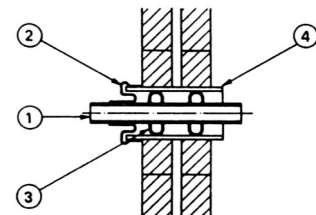

Fig. 14
3.6.4.1 Wall penetration of pipes below ground must be carried out with casing pipes, so that the penetration is waterproof and gas-tight, for example as indicated in Fig. 14.